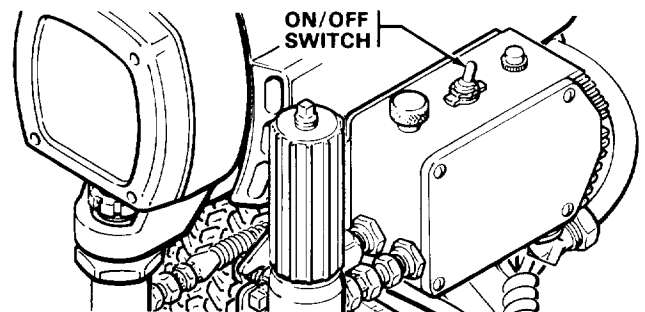

Fig 3
- a. Be sure the ON/OFF switch is OFF. Refer to Fig 3. Then plug the cord into a grounded electrical outlet at least 20 ft (6 m) away from the spray area.